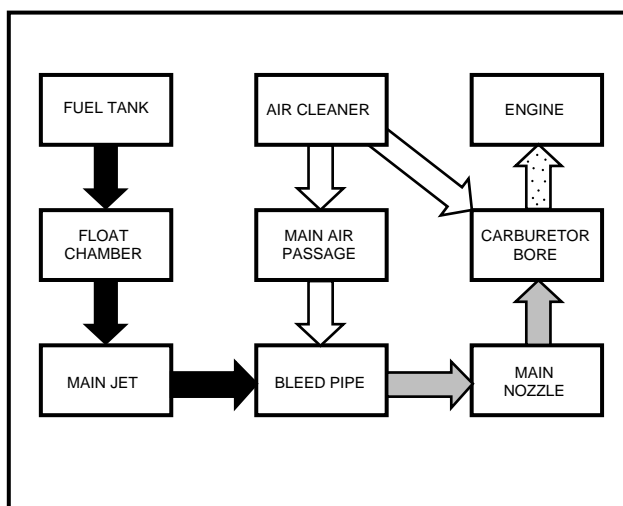
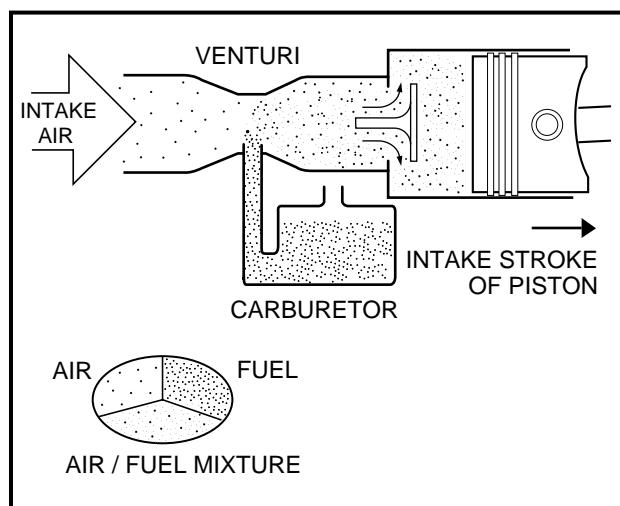
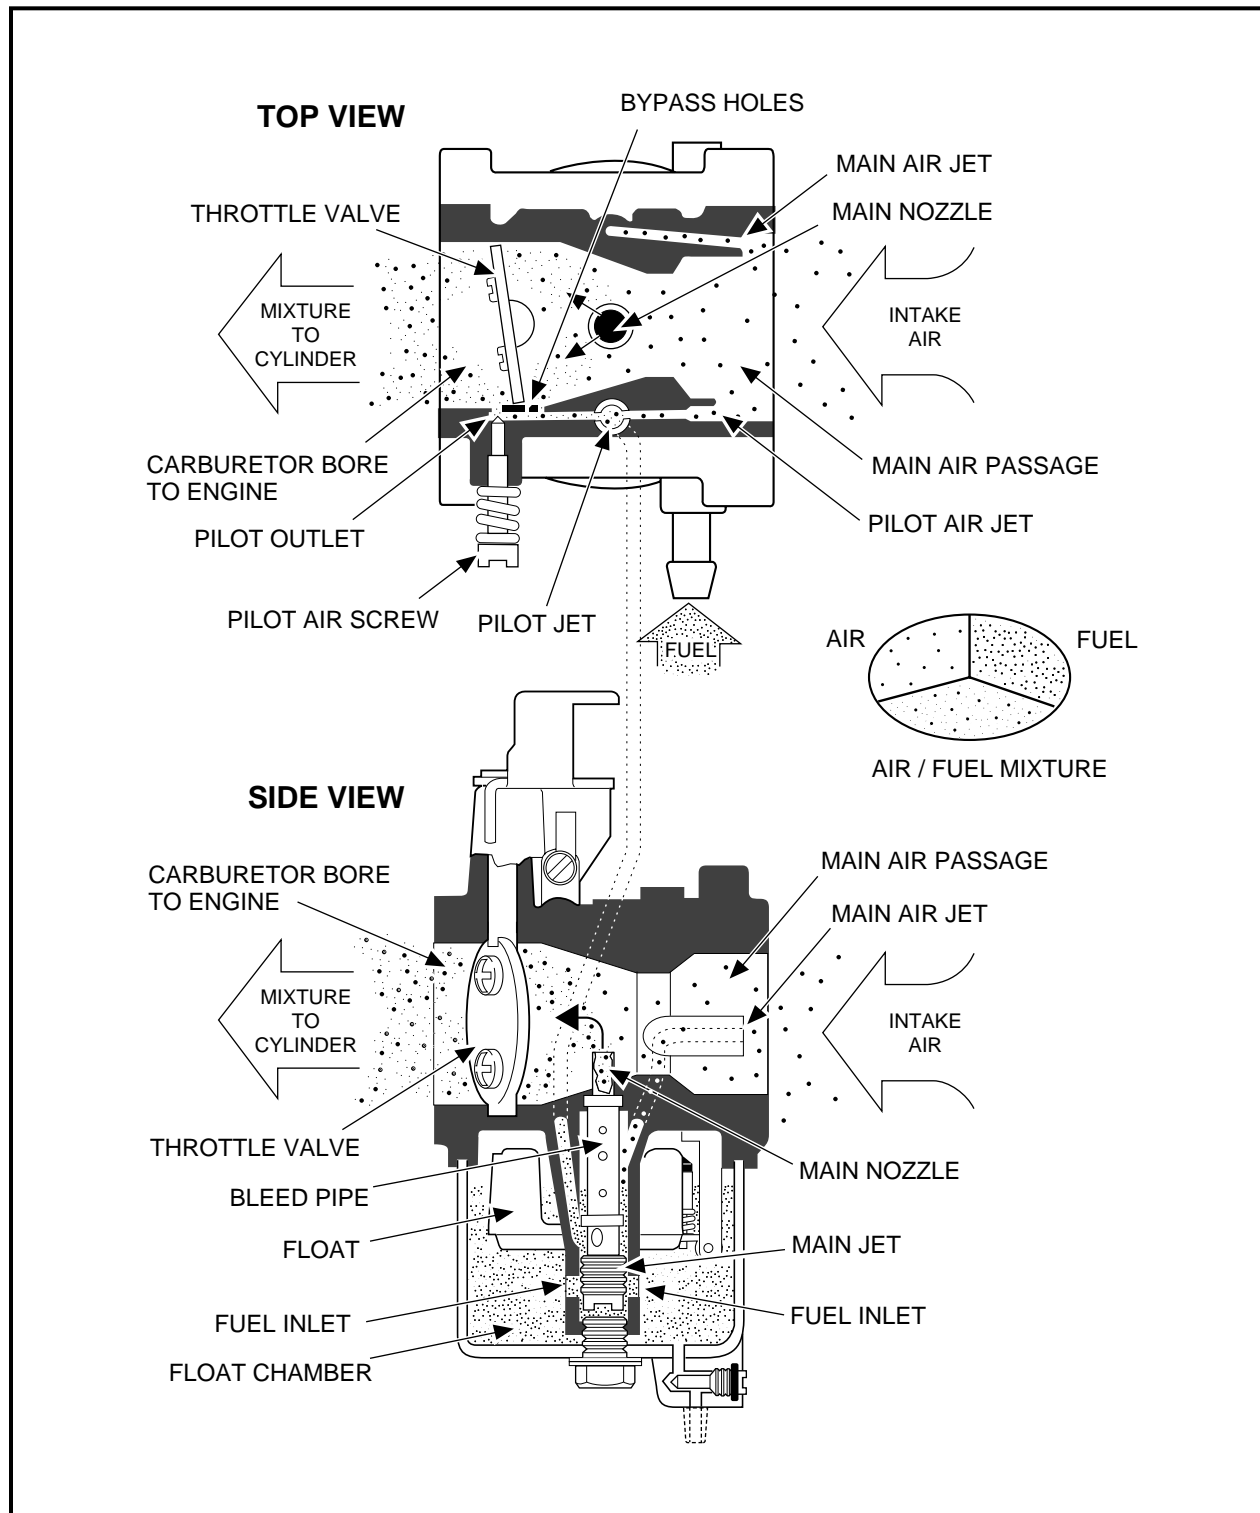

Figure 14-1 Fuel Flow Sequence
Figure 14-2 Air/Fuel Mixture
Figure 14-3 Carburetor
The main system of the carburetor consists of the main jet, the main nozzle, and the main air passage. The main system meters fuel to the engine during moderate to heavy load conditions. Fuel flows through the main jet and into the main nozzle, where it meets air from the main air passage. The resulting mixture flows out the end of the main nozzle and into the carburetor bore, where it is atomized by high-speed air flow and then carried into the engine (**Figure 14-1, Figure 14-2 and Figure 14-3**).
During the intake stroke of the engine, a negative pressure (vacuum) is created in the venturi of the carburetor. In this venturi tube, the intake air has high velocity and low static pressure. Subsequently, fuel is drawn out of the carburetor float chamber, atomized to fine particles, then drawn into the cylinder as a combustible mixture (**Figure 14-2, Page 14-2**).
The slow speed system supplies fuel during low speed running. Low speed running without load requires very low intake airflow. The throttle valve (2) (**Figure 14-3, Page 14-3**) is almost closed when this is the case, and as high negative pressure is created on the back side of the throttle valve, intake air is drawn in and metered through the pilot air jet. The intake air draws fuel, metered by the pilot jet (6) (**Figure 14-3, Page 14-3**),
from the carburetor float chamber. The combustible mixture of air and fuel is then delivered into the venturi through the pilot outlet and bypass. When the engine is operating at low speed, fuel is supplied mainly through the pilot outlet (**Figure 14-3, Page 14-3**).
The air/fuel mixture is adjusted by the pilot screw (needle valve) (**Figure 14-3, Page 14-3**).
For elevations above 3000 feet, main jets other than standard operate more effectively. The following chart lists the elevation ratings for various jet sizes. No adjustment is required for the pilot jet. If the vehicle idles roughly, turn the pilot air screw (**Figure 14-3, Page 14-3**) out until the vehicle idles smoothly.